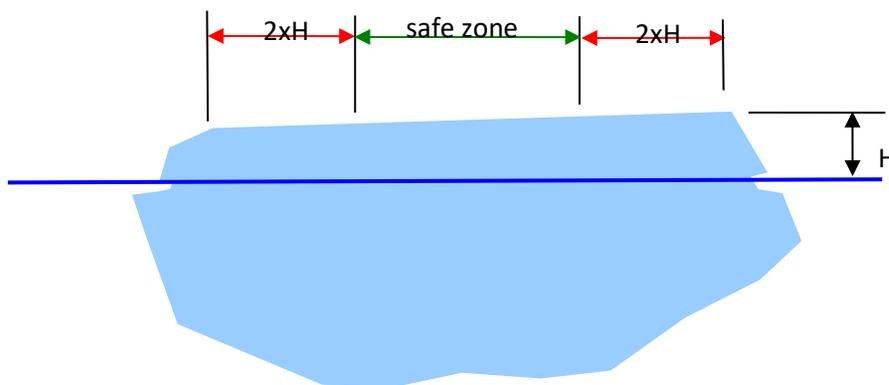

Figure 4. Illustration of safe working zone for helicopter landing on an iceberg.
Iceberg rolling can take several seconds. Iceberg calving is an instantaneous process that provides no opportunity for mitigative action. Even if the helicopter is in a 'power on landing' state, if the ice calves the loss of ground effect may make it impossible maintain lift. Studies of iceberg calving on the east coast of Newfoundland (Crocker, personal communication) have show that calving rates are a function of water temperature with major calving events occurring once every 24 hours in 5°C water and once every 48 hours in 2°C water. Small calving events are more frequent. Because calving is typically limited to the perimeter of icebergs, the best approach to mitigating the risk from calving is to limit landing sites to a *minimum* of 2 freeboard (H) distances from any edge (Fig. 4).